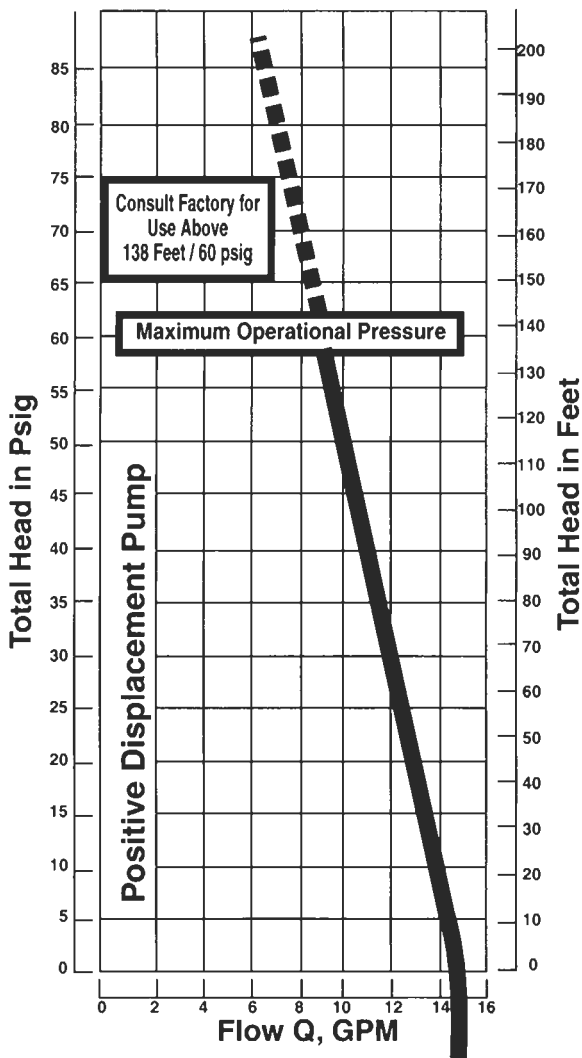

Figure 7-17
Although the pump is not part of this discussion, we present a curve of a positive displacement (PD) pump (Figure 7-17).